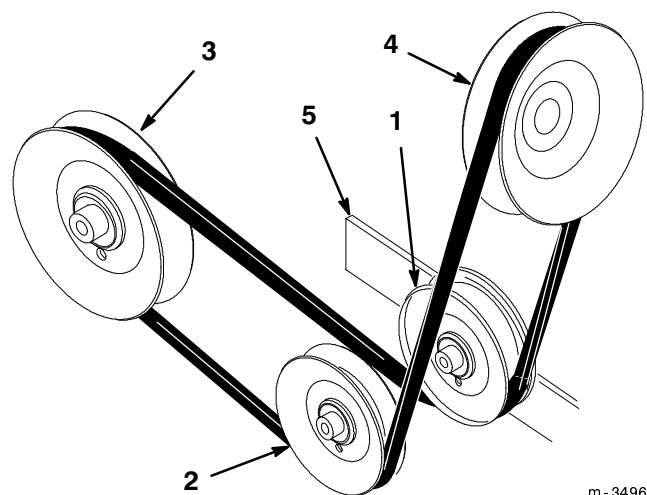

Figure 15
3. Lift up on the lift handle of the snowthrower idler pulley to create enough slack to remove the belt (Fig. 15).